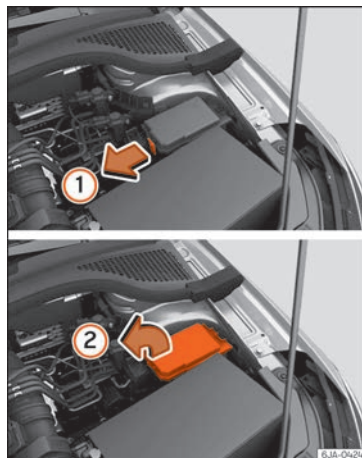
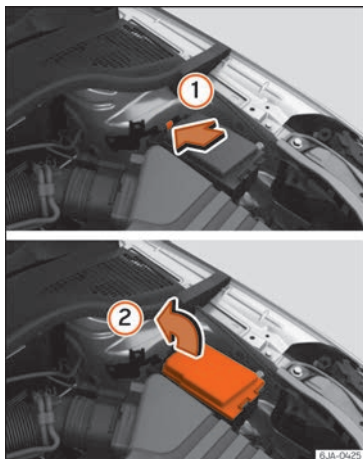

Fig. 87 In the engine compartment: lid of the fuse box - Variant 1
Fig. 88 In the engine compartment: lid of the fuse box - Variant 2
- Press lid locking clip upwards in the direction of the arrow **Fig. 87** or **Fig. 88**.